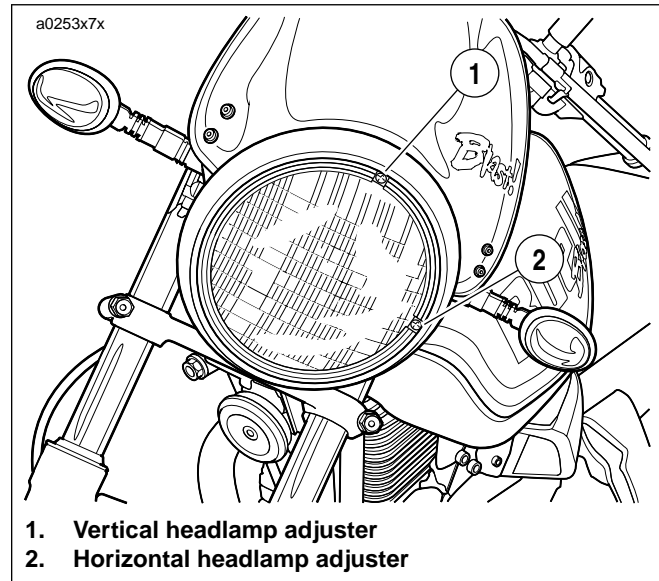

**Figure 1-46. Checking Headlamp Alignment**
3. See Figure 1-46. Point front of motorcycle toward a screen or wall which is 25 ft (7.62 M) away from front tire contact patch on floor (directly below front axle).